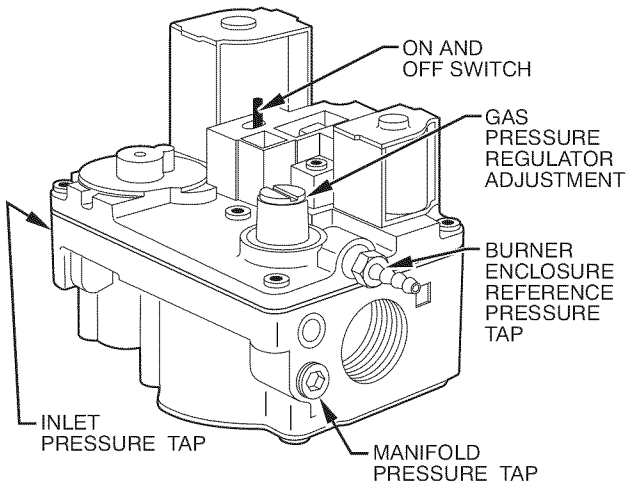
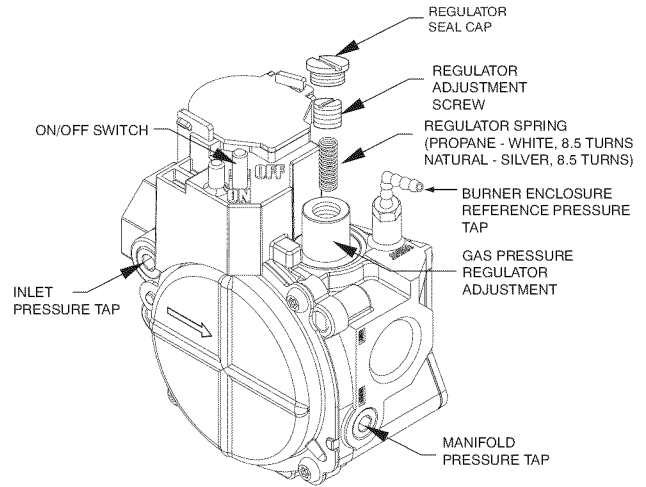

Fig. 2 – Single Stage Gas Valve (With Electric Control Switch), Series E
Fig. 5 – Single Stage Gas Valve, Series G
2. Remove regulator seal cap. (See Fig. 2, 3, 4 and 5.)
4. Install natural gas regulator spring (silver) in gas valve. Turn regulator adjustment screw clockwise (inwards) 10 turns for gas valve as shown in Fig. 2, 3 and 4 or 8.5 turns for Fig. 5.
2. Remove 1/8-in. pipe plug from inlet pressure tap on gas valve. (See Fig. 2, 3, 4 and 5.)
3. Attach manometer to inlet pressure tap on furnace gas valve. (See Fig. 2, 3, 4 and 5.)
2. Remove 1/8-in. pipe plug from manifold pressure tap on gas valve. (See Fig. 2, 3, 4, or 5.)
3. Attach manometer to manifold pressure tap on gas valve. (See Fig. 2, 3, 4, or 5.)